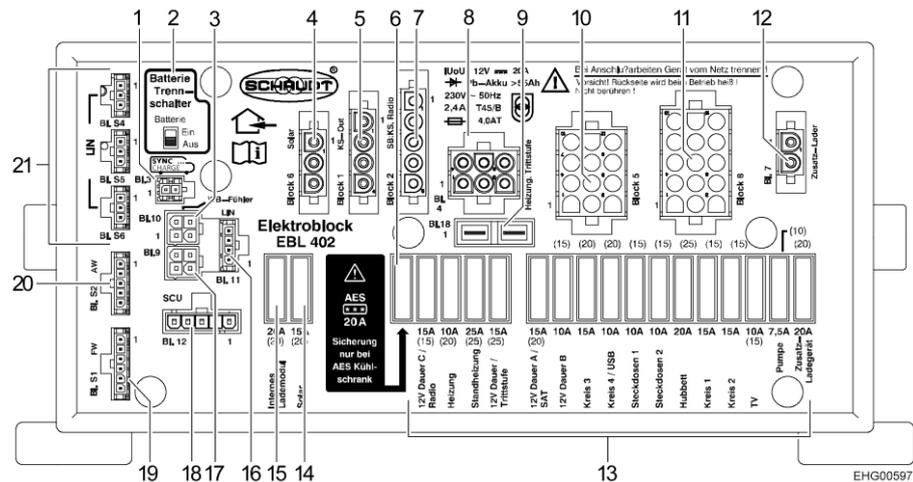

Fig. 107 Transformer/rectifier (EBL 402)
- Move the battery cut-off switch (Fig. 107,2) to the "Aus" (Off) position on the transformer/rectifier EBL 402.
- Move the battery cut-off switch (Fig. 107,2) to the "Ein" (On) position on the transformer/rectifier EBL 402.